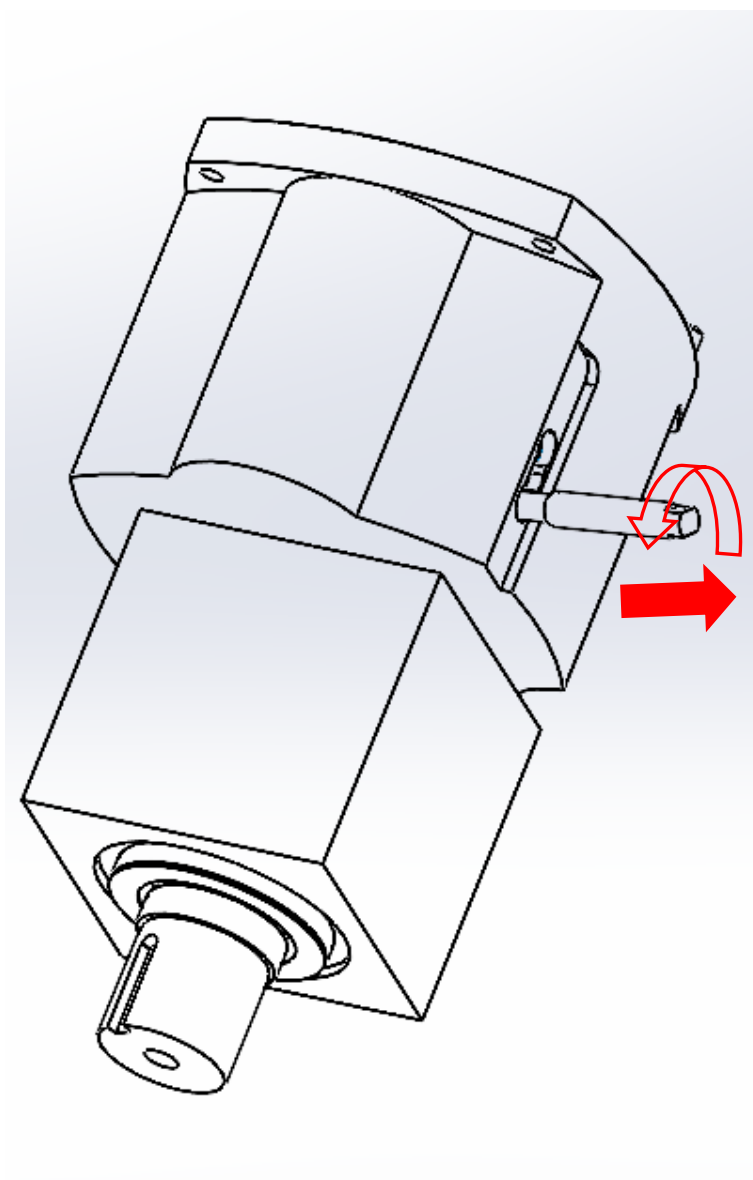

Figure 1.20
1.7.3 Unscrew and remove the outer gear lever as in figure 1.20;